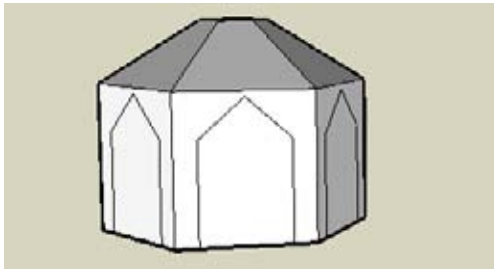

Figure 3-22
7. Erase the groups, and your intersection edges remain, as shown in Figure 3-22.